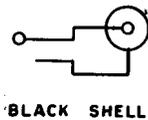

Fig. 13—339A Plug
2.12 **339A:** The 339A (Fig. 13) is used with the 464A- or similar-type jacks and is a dummy plug that does not short circuit the coaxial members of the jack. The 339A plug is used in K-Carrier Systems.